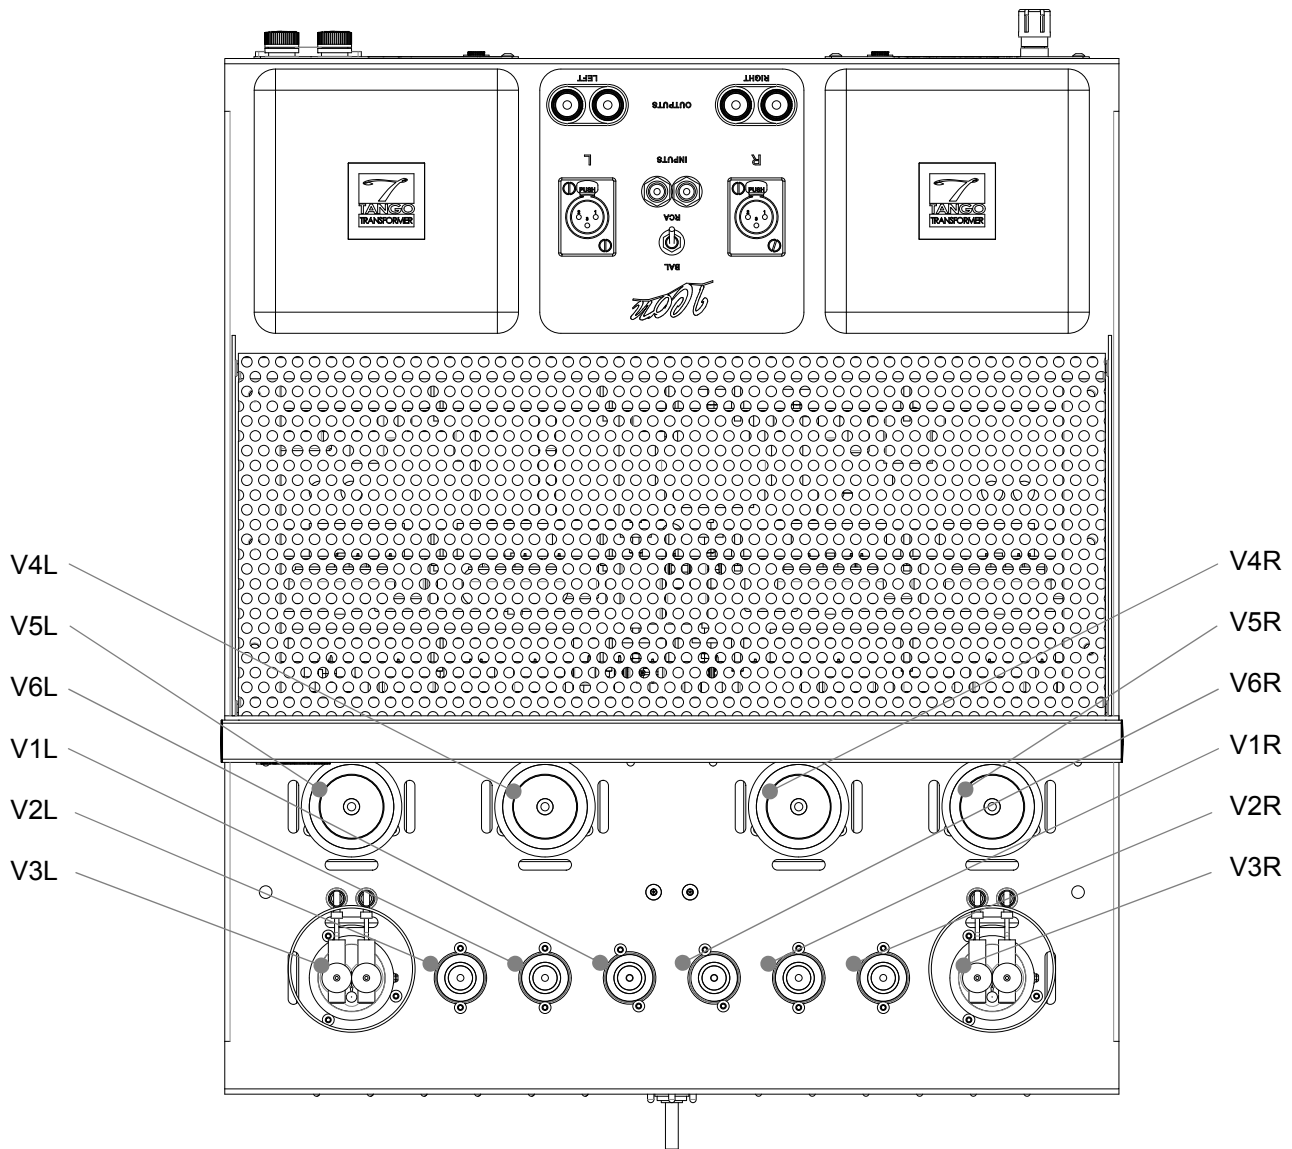

Figure 6
The **ICON** Chassis has nomenclature screened on it to specify both the circuit location and Tube type for each channel. Refer to figure 6.
1. Locate a GU50 (V5L) Power Output Tube. Refer to figure 6.
2. On the top left side of the amplifier, locate the Tube Socket that has the nomenclature V3L next to it on the chassis. Refer to figure 6.
2. On the top left side of the amplifier, locate the Tube Socket that has the nomenclature V6L next to it on the chassis. Refer to figure 6.
2. On the top left side of the amplifier, locate the Tube Socket that has the nomenclature V2L next to it on the chassis. Refer to figure 6.